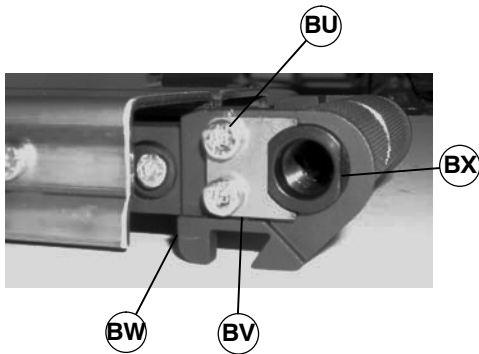
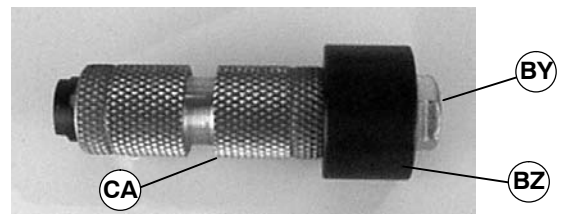

Figure 38
Figure 40
1. Remove two M5 low head screws (BU of Figure 38) and clip (BV) from head plate (BW).
NOTE: If retaining sleeve(s) (BX of Figure 38 and 39) does not slide out::
- Assemble removal tool (part # 25-09†) (BZ of Figure 40) and bolt (part # 906-278†) (BY) on spindle (CA), as shown
- Tighten bolt (BY) to remove bearing sleeve (BX of Figure 38 and 39) from spindle (CA of Figure 40).